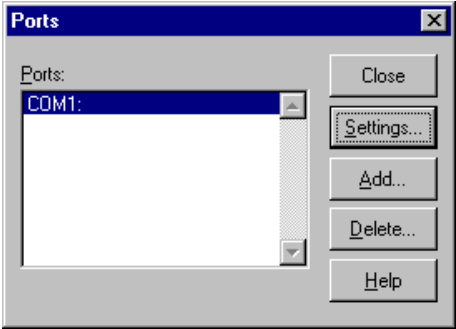

Figure C-3: Ports dialog box
- 2 From the Ports dialog box, choose the port, such as COM1 or COM2 (Figure C-3).